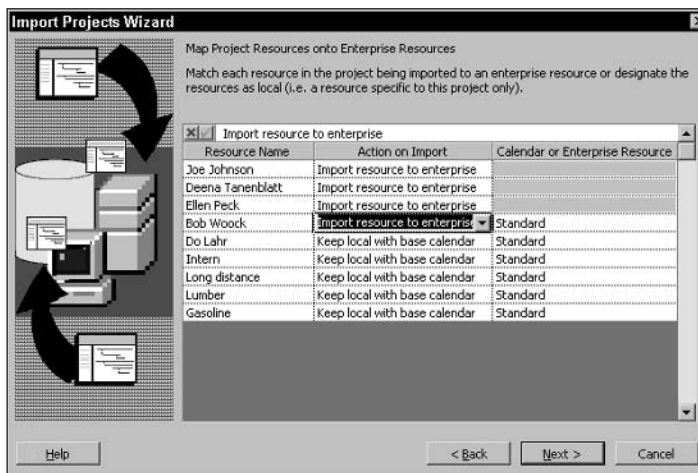

Figure 19-36: Map project resources to enterprise resources.
- Use the next screen, shown in Figure 19-36, to map resources in your project to enterprise resources. To map resources, click in the Action on Import column, and a list box appears. Repeat this process in the Calendar or Enterprise Resource column. When you finish, click Next.